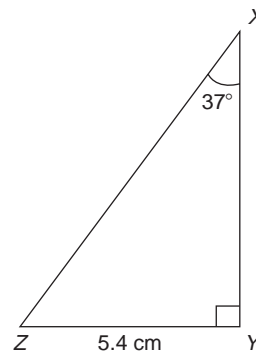

Figure M9
62. The area of triangle XYZ in Fig. M9 is: